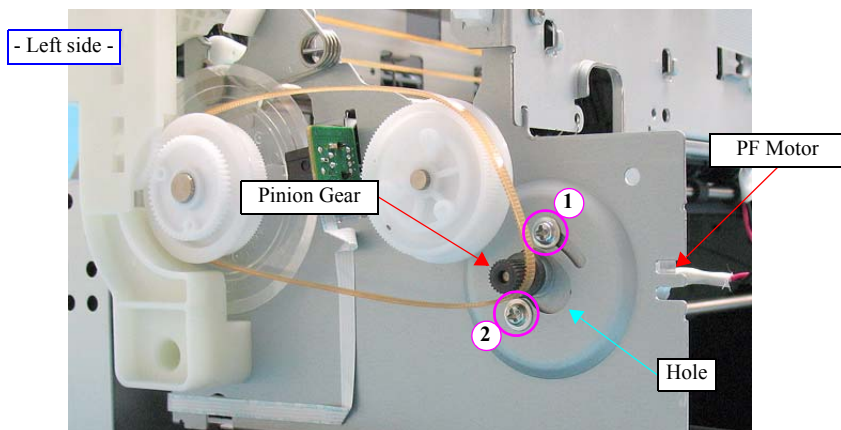

Figure 4-214. Removing the PF Motor (3)
3. Turn the PF Motor along the cutout as far as it goes (to the dotted line shown in Figure.4-214), and attach the PF Timing Belt.
4. Adjust the tension of the PF Timing Belt referring to 5.3.2 "PF Belt Tension Adjustment" \(p.193\), and tighten the screws of the PF Motor in the order indicated in Figure.4-214.